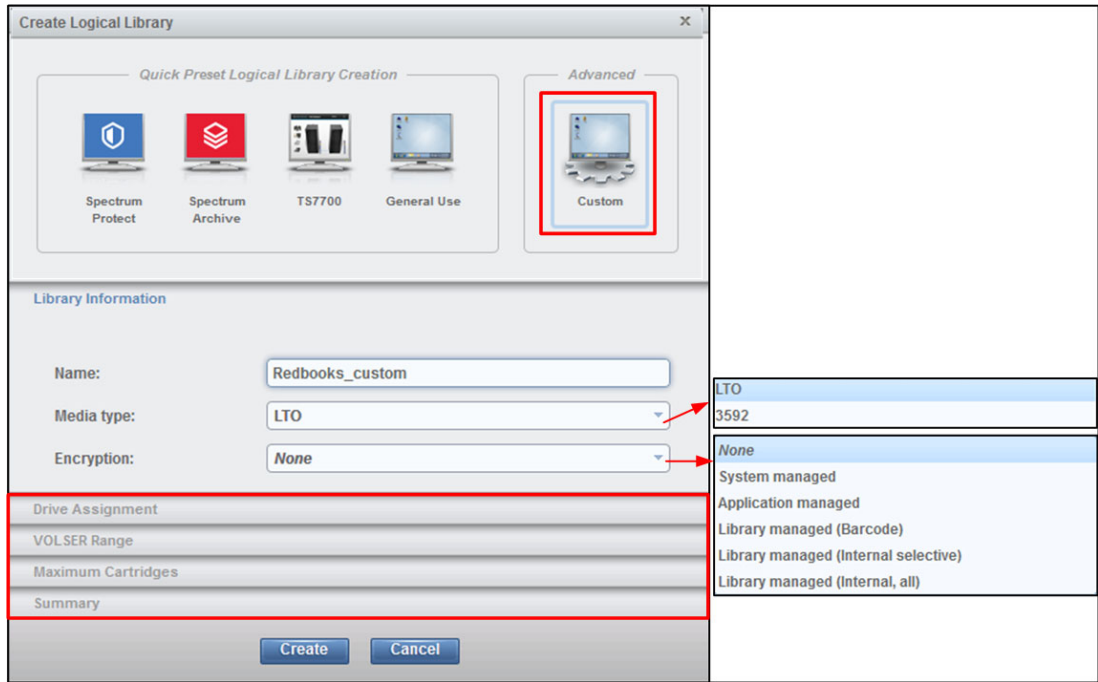

Figure 4-145 Custom LL
1. Select the number of drives and slots to use for the LL that you are configuring. Figure 4-145 on page 304 shows the initial menu after you select **Custom**. Also, you can select the drive assignments, VOLSER range, maximum cartridges, and summary.